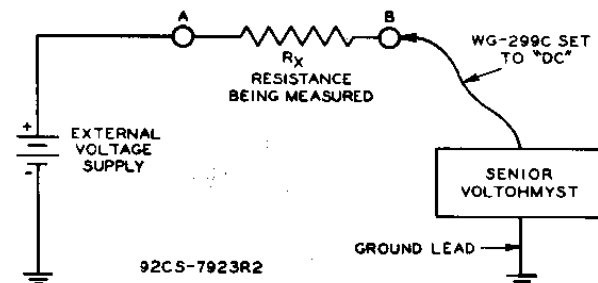

Figure 2. Circuit for resistance measurements above 1000 megohms
The leakage resistance of small mica and paper capacitors is usually above 1000 megohms. The circuit shown in Figure 2 can be used to measure resistance values above 1000 megohms. An external dc-voltage source between 20 and 500 volts is utilized to obtain a measurable pointer deflection. Make circuit connections as shown in Figure 2 and proceed as follows:
**EXAMPLE:** The value of an unknown resistance is to be determined with the circuit of Figure 2. An external voltage of 500 volts is applied. The WV-98B measures 2.5 volts at "B", and 500 volts at "A". Then,
**Insulation-Resistance Measurements.** Current leakage through the dielectric of capacitors and insulation of coils, transformers, cables, and other components can be measured with the WV-98B in terms of resistance. Values of leakage resistance above 1000 megohms can be measured with the circuit shown in Figure 2.